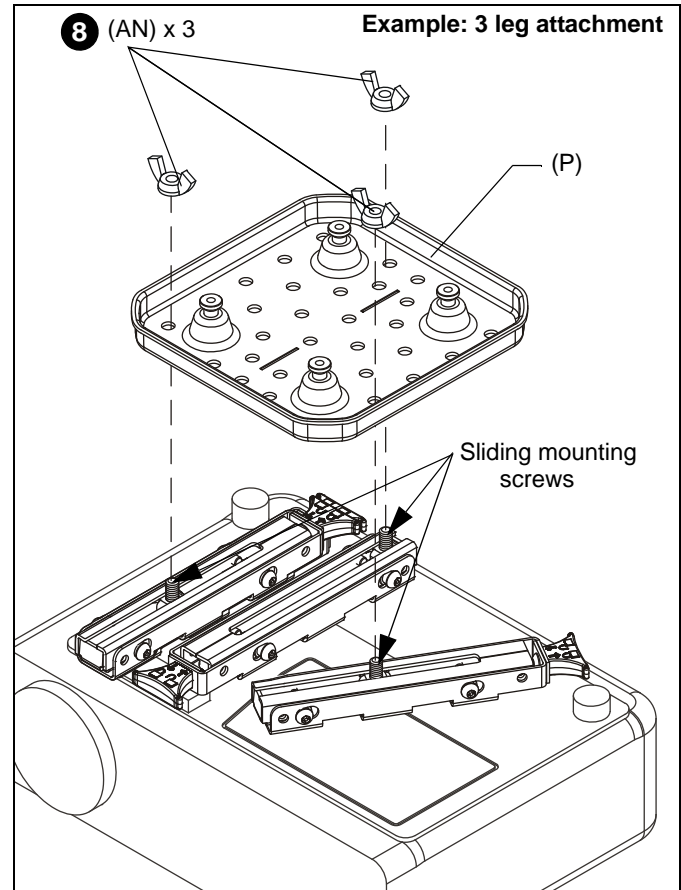

Figure 5
- Maneuver interface legs (Q) and slide mounting screws in top of interface legs so that mounting screws are properly located to mount universal interface plate (P) over projector's center of gravity via attachment to interface legs. (See Figure 5)
- Secure interface plate to interface legs by installing 1/4-20" wing nuts (AN) to screws on interface legs. (See Figure 5)